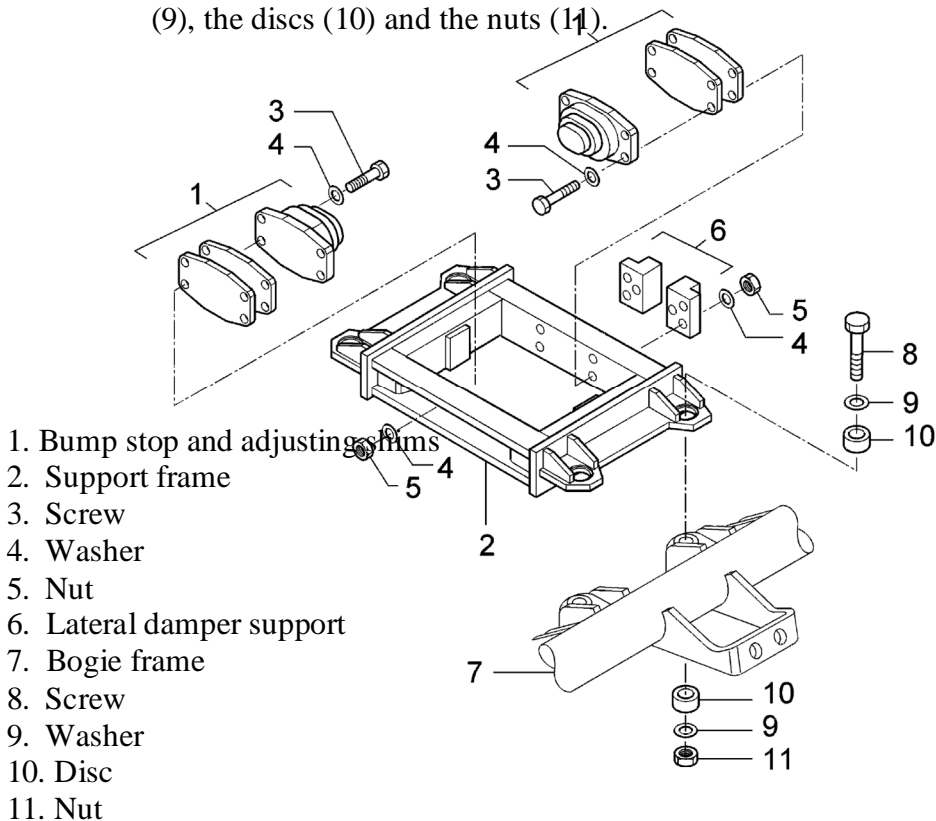

Fig.3.12 Removing Bump Stops from the Bogie Frame
Remove the lateral bump stops (Fig. 3.12) from the small frame (2) extracting the screws (3), the washers (4) and the nuts (5). When dismantling them, the support (6) for the lateral damper can also be removed.